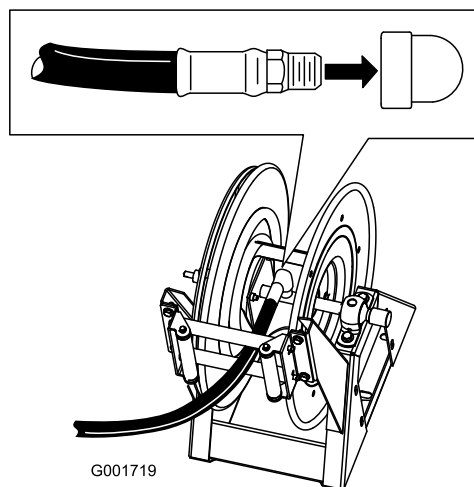

Figure 14
1. Wrap Teflon® tape around the threads of the hose fitting on the long hose, and install the fitting into the connecting tube on the reel (Figure 14).